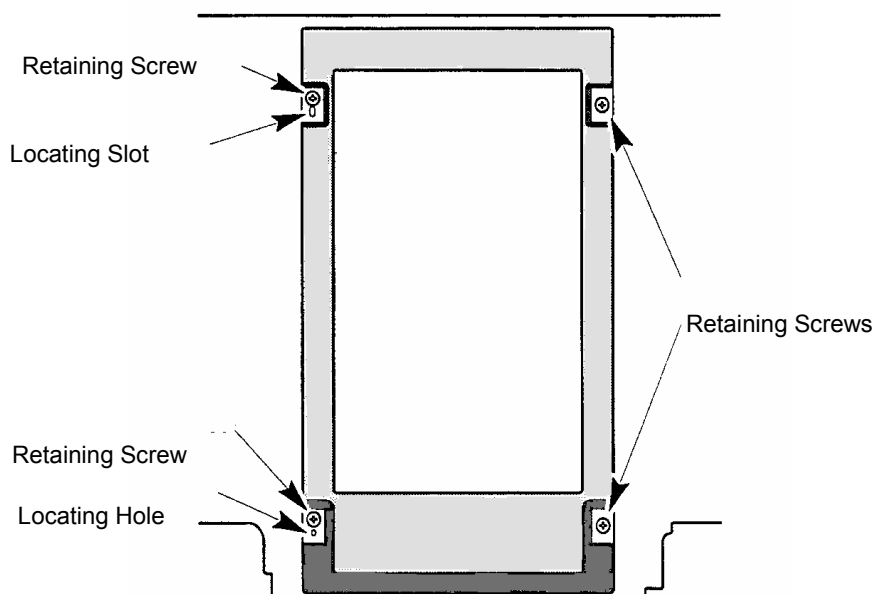

Figure 15 Four retaining screws in the sample compartment
3. Undo the four retaining screws shown in Figure 15.